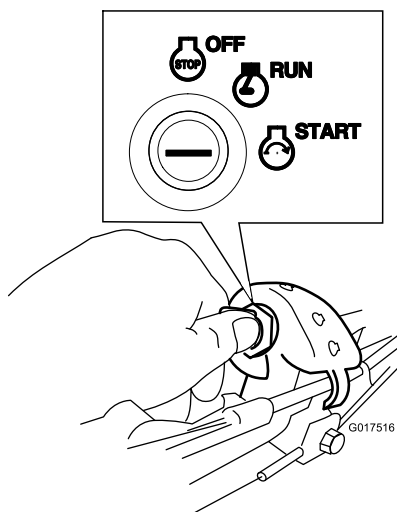

Figure 17
- **Ignition Key:** Turn and hold the ignition key to the Start position (Figure 17); when the engine starts, release the key.
1. Turn the ignition key to the Run position (Figure 17).